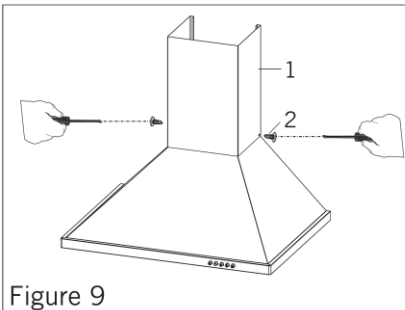

Figure 9
- Place the assembly between the main body of the hood and the ceiling, fix the lower part of the chimney using screws **2** (3.5 x 9.5 mm), see figure 9.